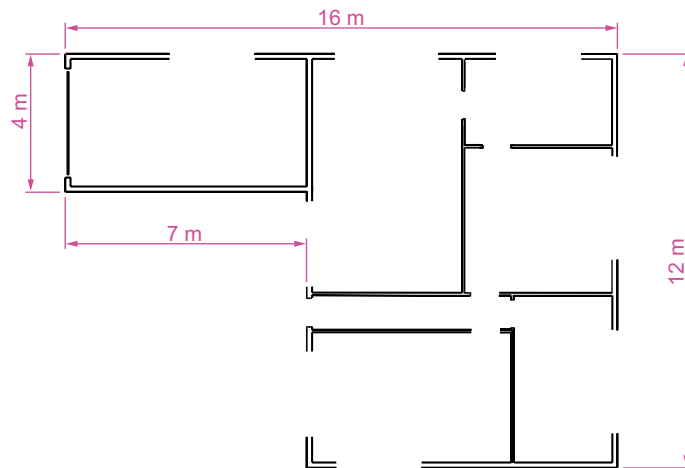

Fig. 9.5 First example – inserting blocks. Outline plan
of the drawings of the symbols and in their place construct the outline of the plan of a bungalow to a scale of 1:50 (Fig. 9.5). Then:
3. With the outline plan (Fig. 9.5) on screen the symbols can all be dragged into position from the **DesignCenter**.